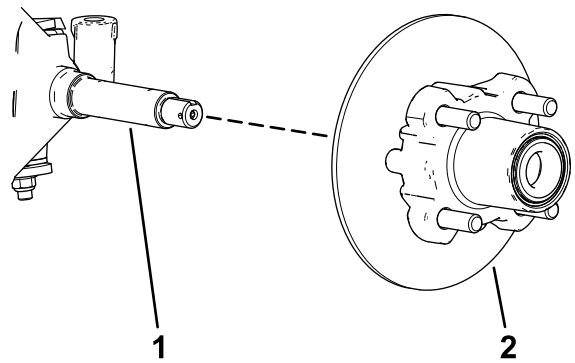
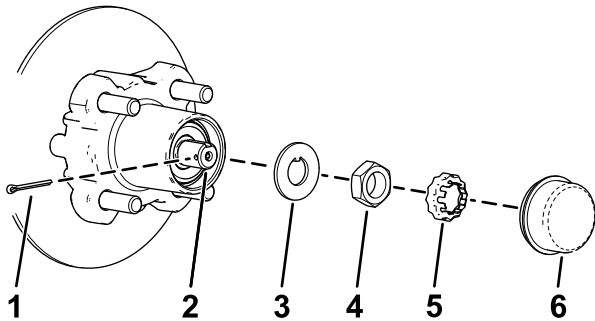

Figure 37
Figure 36
4. Remove the dust cap from the hub (Figure 36).
5. Remove the cotter pin and nut retainer from the spindle and spindle nut (Figure 36).
6. Remove the spindle nut from the spindle, and separate the hub and rotor assembly from the spindle (Figure 36 and Figure 37).